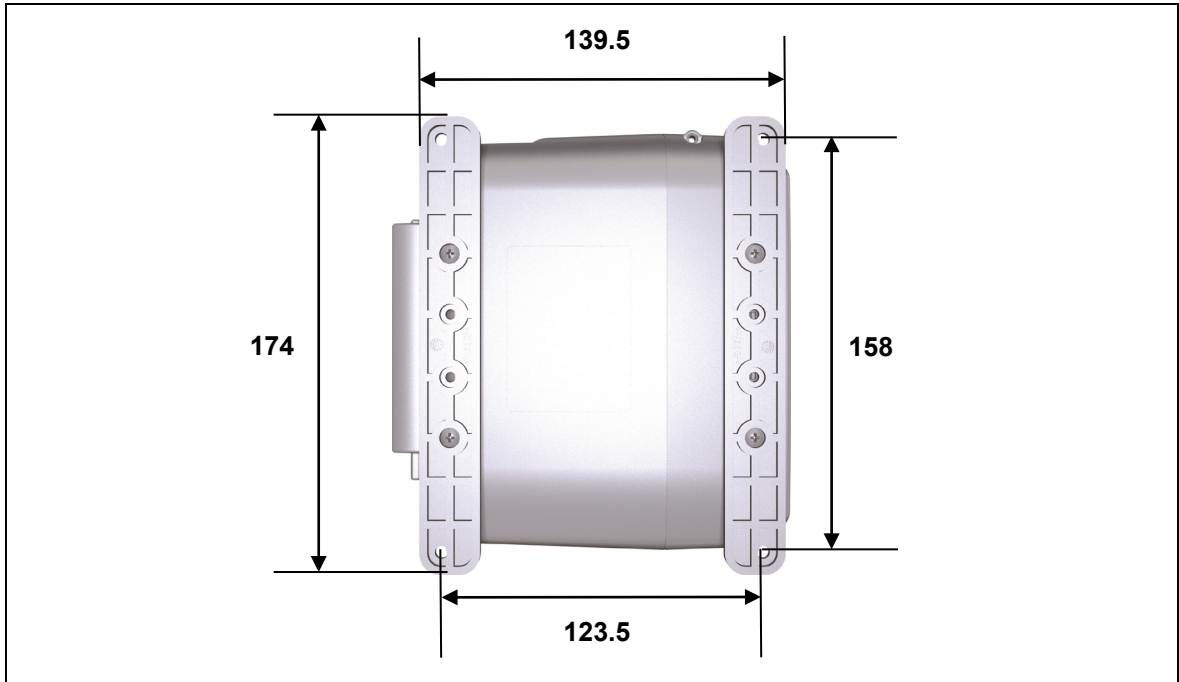
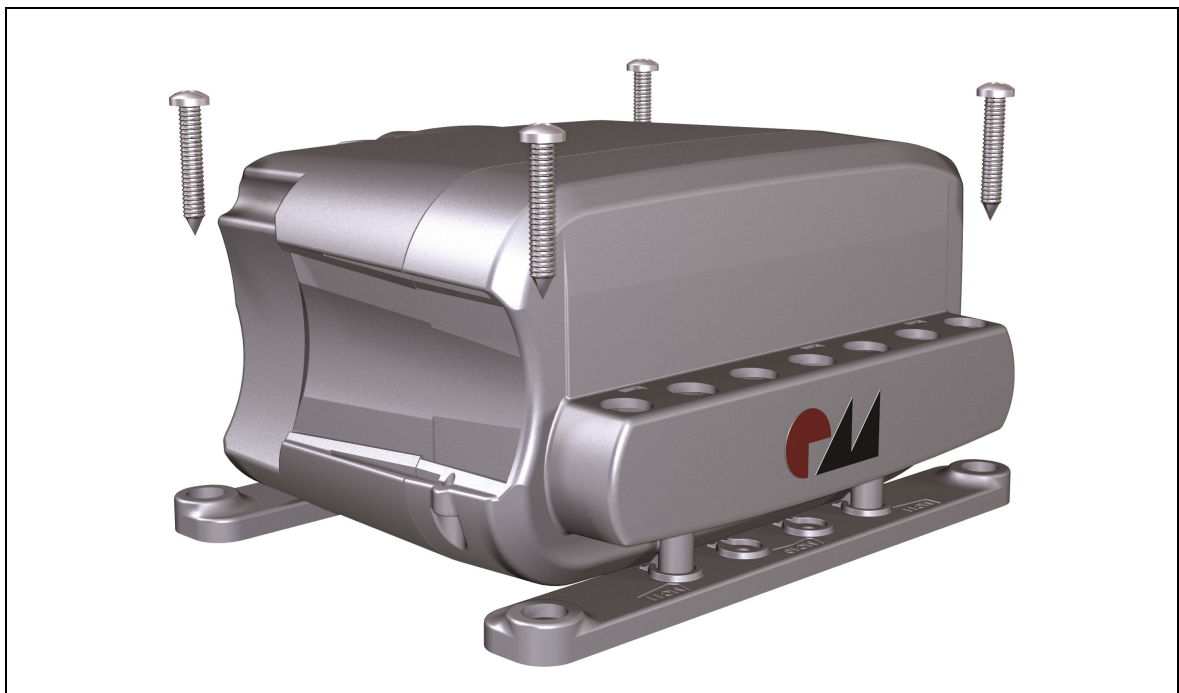

Figure 13 Mounting dimensions of the holes. View from below (in mm)
Figure 14 Attaching the MC11 control unit to the end product
- 1 The control unit is screwed onto the end product by using four screws for the four mounting points (e.g. DIN 7981 screws with 4.8 mm diameter and suitable length of 6 mm plus screw-in depth) as shown in Figure 14. The mounting dimensions are shown in Figure 13.